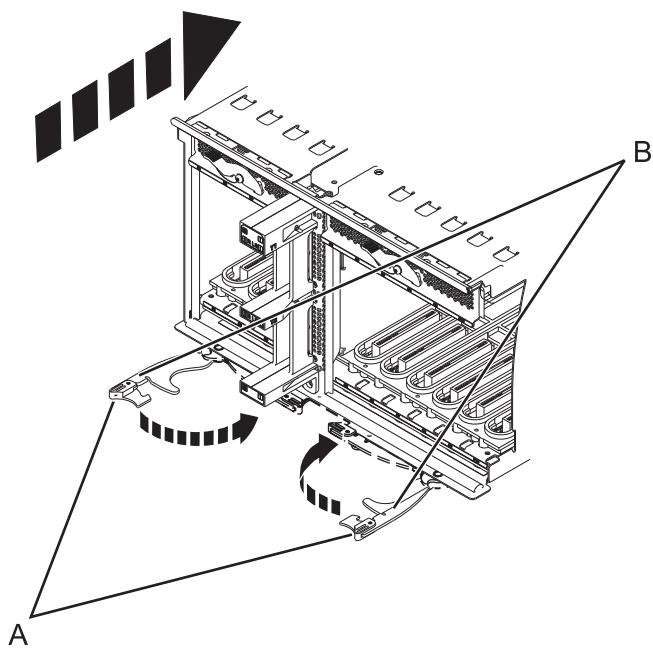

Figure 74. Install the I/O system board on a rack mounted model
- Insert the I/O system board firmly into the server, as shown in Figure 74 on page 134.
- Secure the I/O system board with the locking tabs (A), as shown in Figure 74 on page 134.